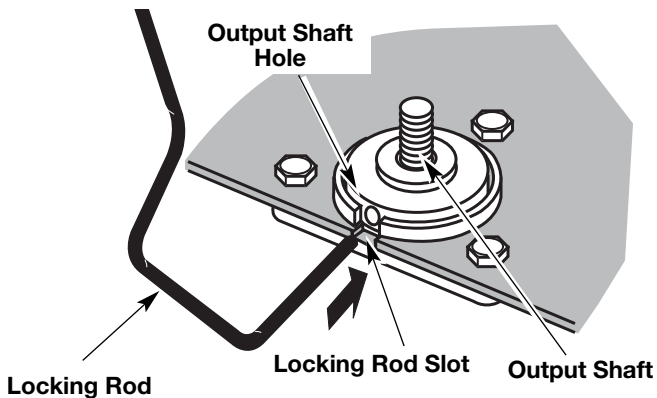

Fig. 7
1. Line up the hole in output shaft with the locking rod slot. Insert the locking rod through the slot into the output shaft hole (Fig. 7).